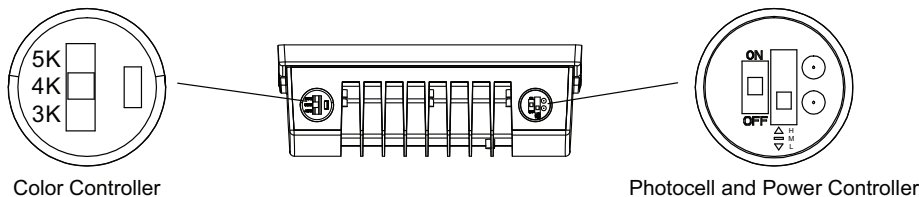

Fig. 13
- 2.) Adjust the color temperature controller to the desired CCT, the power controller to the desired wattage (-WCS models only), and the photocell controller on or off (**Fig. 13**).